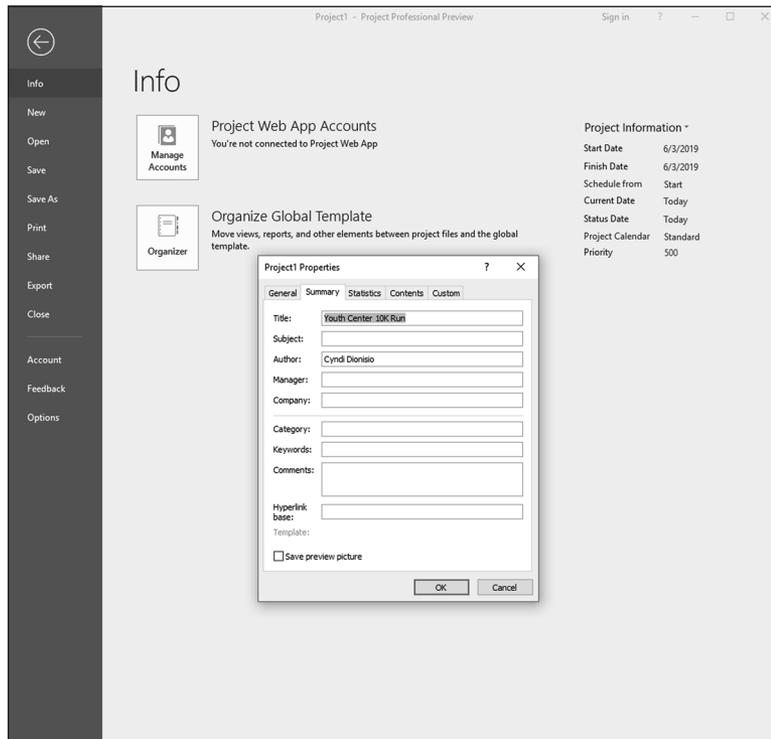

FIGURE 2-3:
- » **Choose File ⇄ Info.** In the Project Information section on the right side of the screen, as shown in Figure 2-3, you can enter the start, finish, current, and status dates for the project. All you have to do to make an entry or change an entry is click on it to display the controls — for example, to change the date, just click on the date picker.